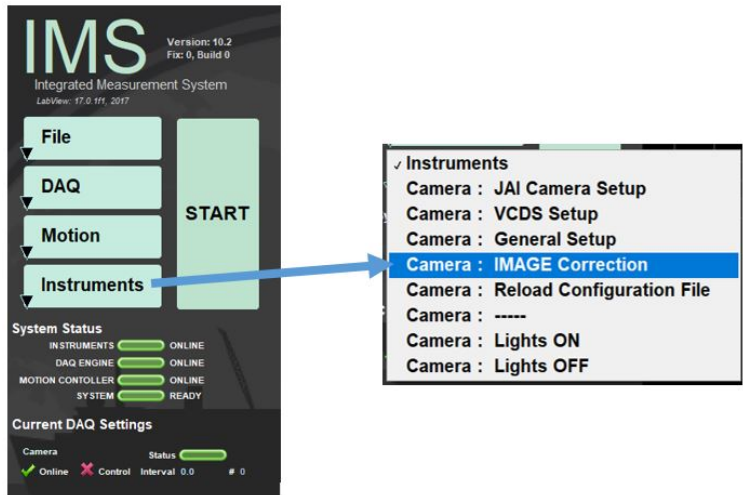

Figure 54: Image Correction command selection.
6. On the main IMS panel select **Instruments** and **Camera: Image Correction** (Figure 54).
Figure 54: Steps for JPEG Correction illustrated on image. 1. Select JPEG Correction Mode. 2. Select Applied Corrections tab on graph. 3. Select JPEG Correction to see Brightness, Contrast, and Gamma Corrections. 4. Adjust Brightness, Contrast, and Gamma corrections. 6. Check graph for Linear Relationship. 7. Check the boxes in the Color Checker and compare to RGB values in corrected image.